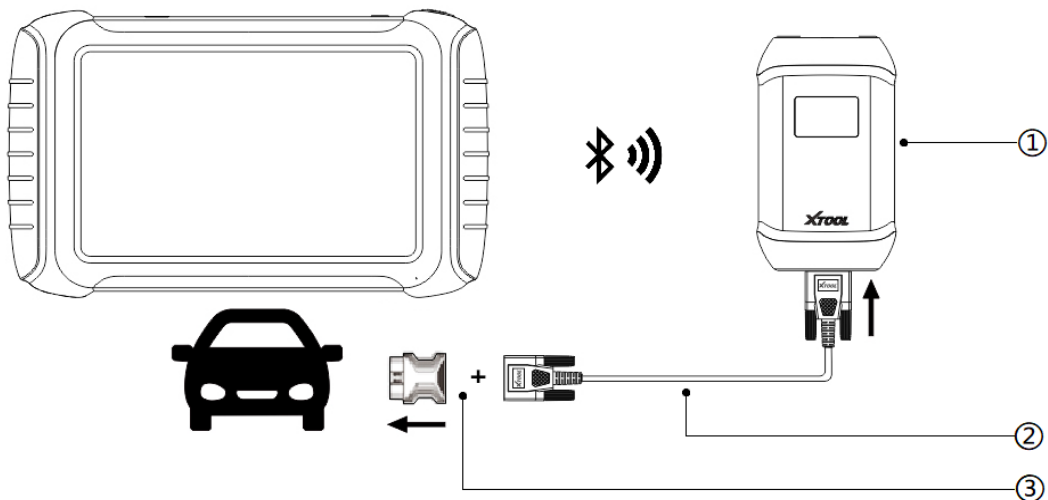

Figure 4-1 Sample of How to Connect Device to Vehicle via Bluetooth
2. Connect the vehicle, the VCI box, and the tablet following the diagram below (Figure 4-1 & Figure 4-2). Usually, the OBD port is located under the dashboard, inside the driver's footwell.